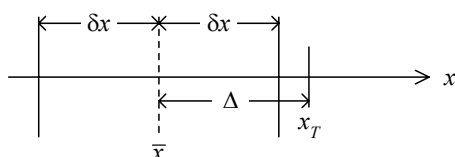

Fig. 5
2. If $\Delta > \delta x$ (Fig. 5), then the discrepancy is significant. This indicates that you made a mistake or there exist some systematic errors in equipment.